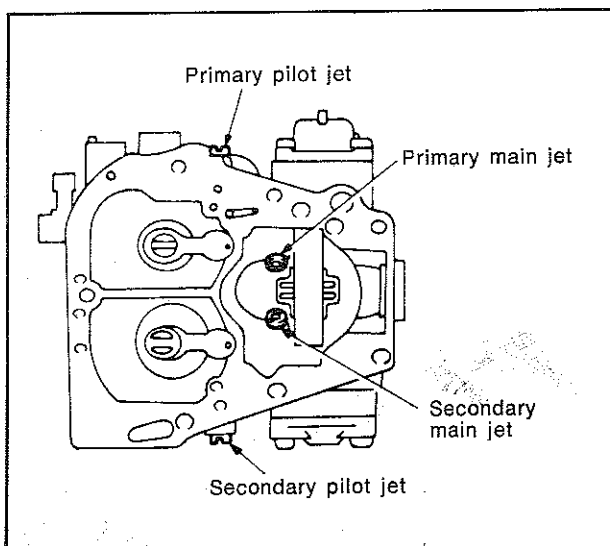

Fig. 21—Jet locations
(1) Install the idle mixture adjusting screw, spring, washer and packing, in the throttle body. Turn the screw lightly against its seat with fingers. **Do not use a screwdriver.** Turn the idle mixture adjusting screw 1½ turns counter-clockwise as a starting point.
(2) Using a new gasket, install the throttle body to the main body, and tighten the screws.
(3) Connect the accelerator pump rod to the throttle shaft lever.
(4) Install the main jets and pilot jets (Fig. 21).
(5) Install the fuel cut-off solenoid.
(6) Using a new gasket, install the enrichment assembly to the main body.
(7) Install the accelerator pump assembly.